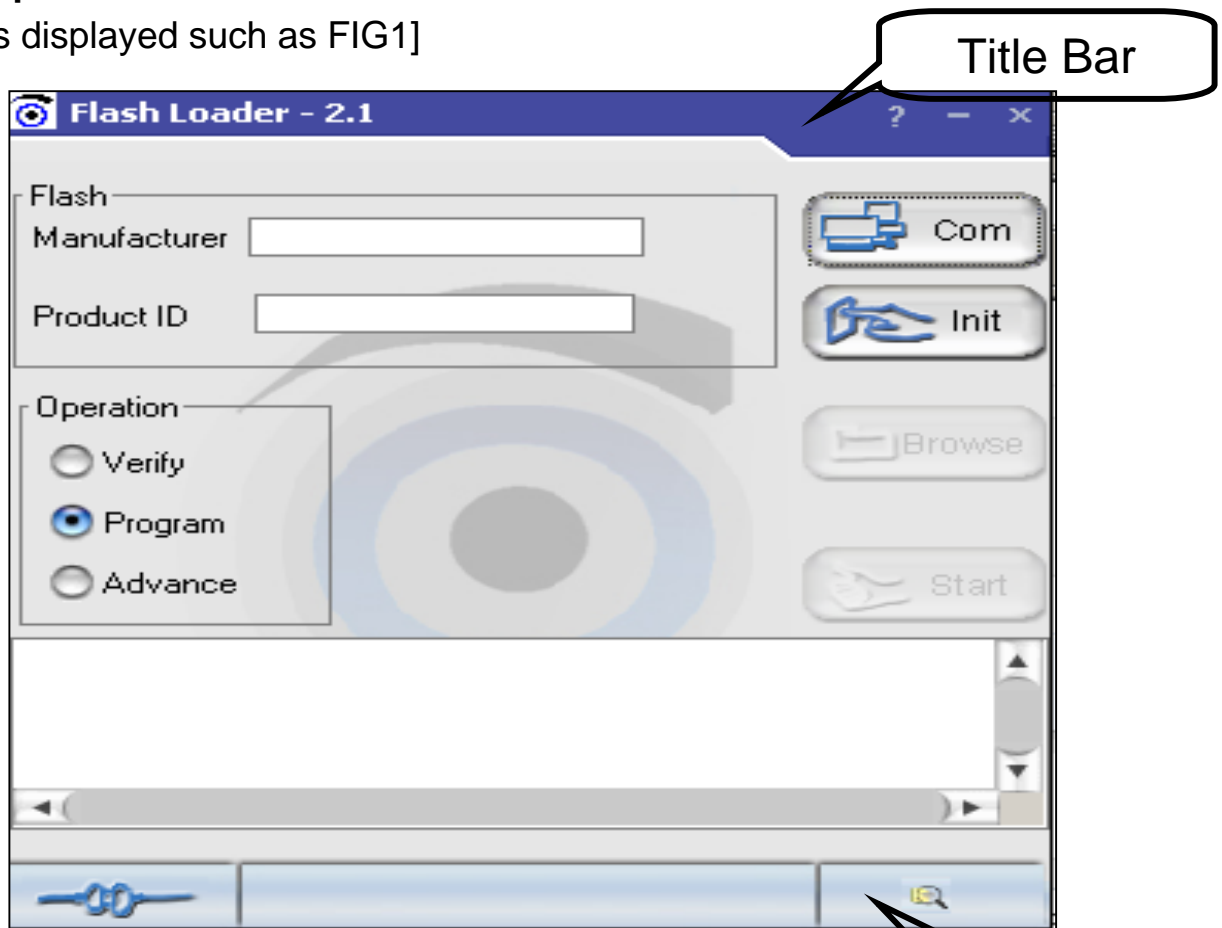

Fig 1) Flash Loader Main Window (No Communication)
A] Authorization Pattern: Authorizing Fig. 1] Full White Pattern/ Vertical 8 Gray
Indicated in Fig. 1] and check if the following conditions are satisfied.
2.Invoke the Flash Loader, click **Star** and select **Programs / Oplus/ FLASH** Loader. And Then The Flash Loader main window is displayed such as FIG1]
\*Explain to buttons on the FIG1]